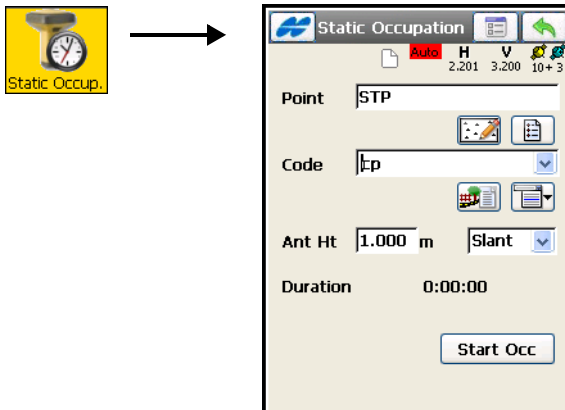

Figure 8-33. Static Occupation Screen
1. To open the *Static Occupation* screen (Figure 8-33), choose the *PP Static* configuration in the *Survey Config* screen (use the **Configure** icon) and tap **Setup GPS ▶ Static Occupation** (Figure 8-33).